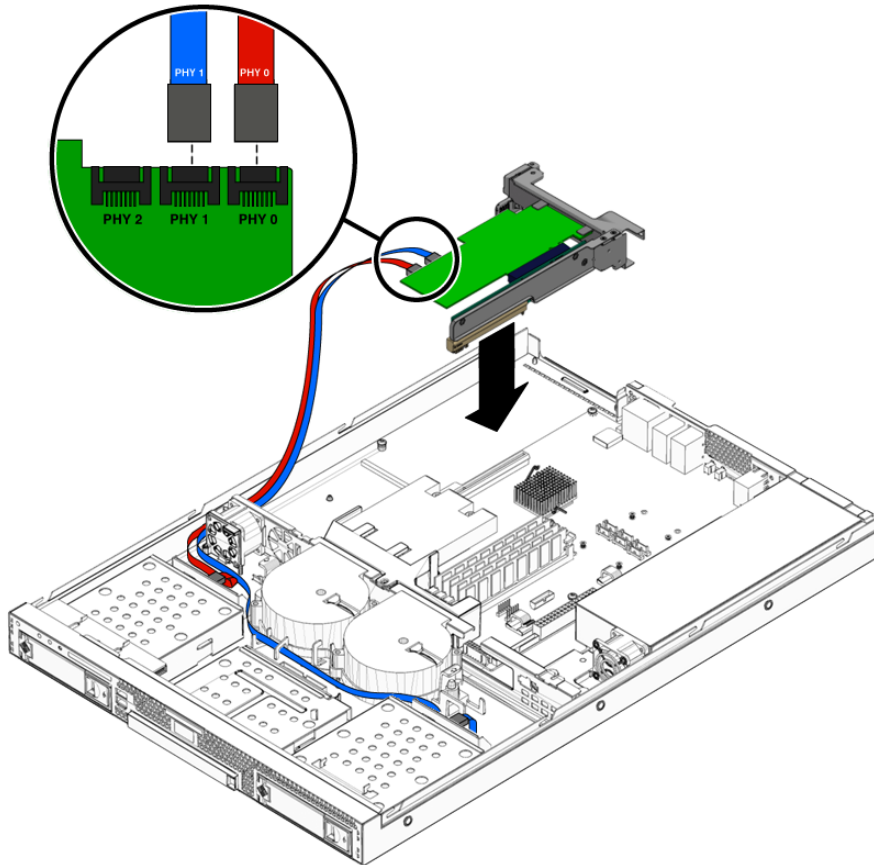

FIGURE 4-13 Installing an LSI PCIeCard
6. Connect the SAS cables to the SAS card connectors. See FIGURE 4-13.
5. **Connect the SATA cables to the LSI PCIe card connectors.** See FIGURE 4-13.